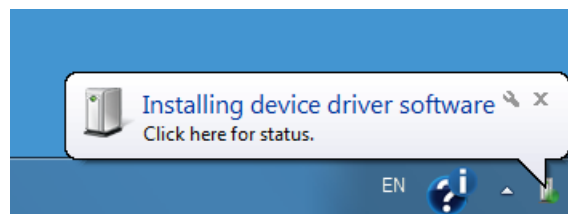

Figure 20: Windows notification indicating device installation.
2. Connect your new Artec 3D scanner to the computer and wait until Windows detects the device and installs the necessary drivers. You may see a notification similar to one shown in Figure 20.